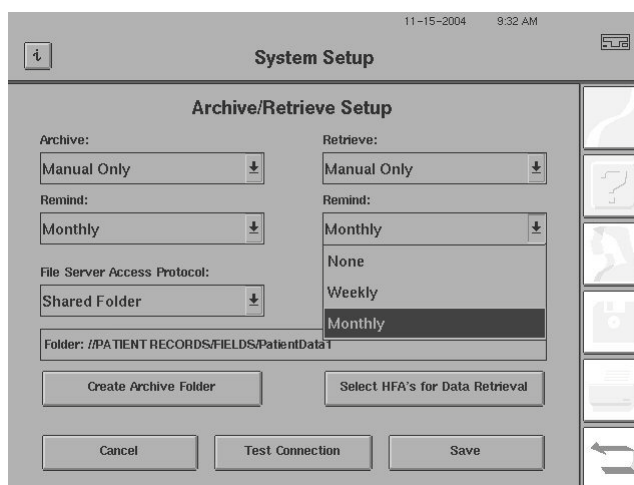

Figure I.20 Selecting the Frequency of Manual Archive Retrieval Reminders
- 2 A Remind drop-down box will appear below the Retrieve drop-down box. Either leave the drop-down box setting at NONE, or select WEEKLY or MONTHLY (as illustrated in Figure I.20) retrieval reminders.